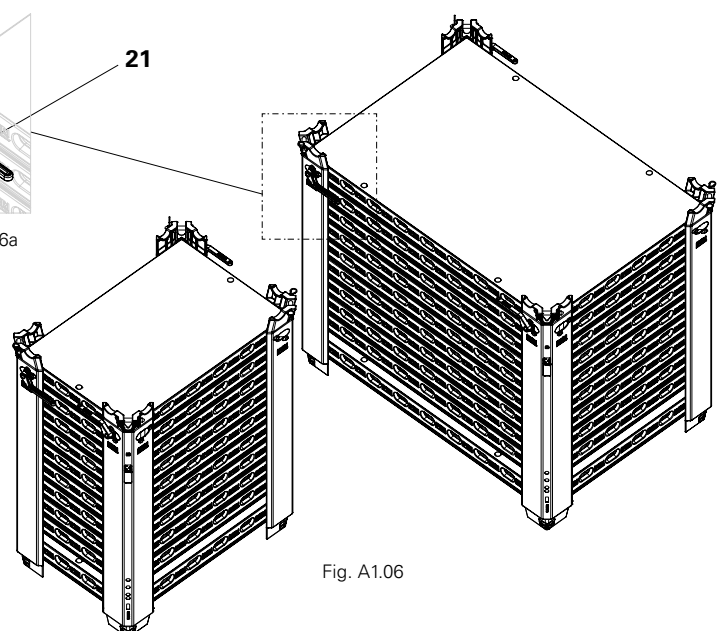

Fig. A1.06
- Secure the top panel on each stacking device with at least one DUO coupler (**21**). (Fig. A1.06 + A1.06a) See A3, DUO couplers.